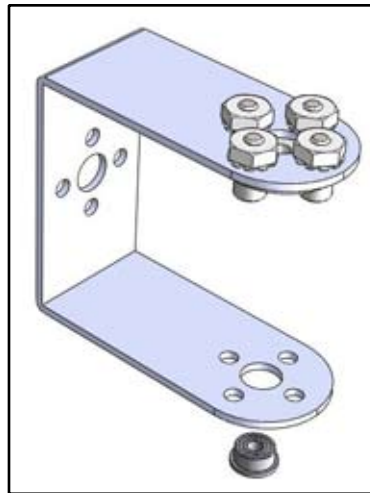
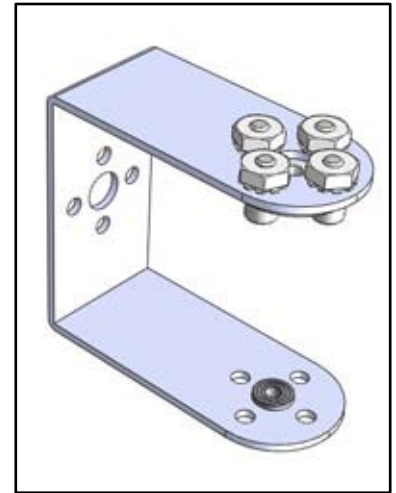

Figure B5a
Figure B5b
- 2) Find the pivot bearing, screw, nut, and washer that comes with the pivot bracket. Place the bearing flange-side down on a flat surface. Place the side of the pivot bracket opposite the horn over the bearing and align the bracket hole to it (Figure B5a). Press down firmly to pop the bearing into the bracket hole (Figure B5b).